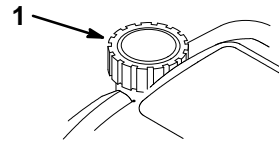

Figure 6
2. Clean around the fuel tank cap and remove the cap from the tank (Fig. 6).